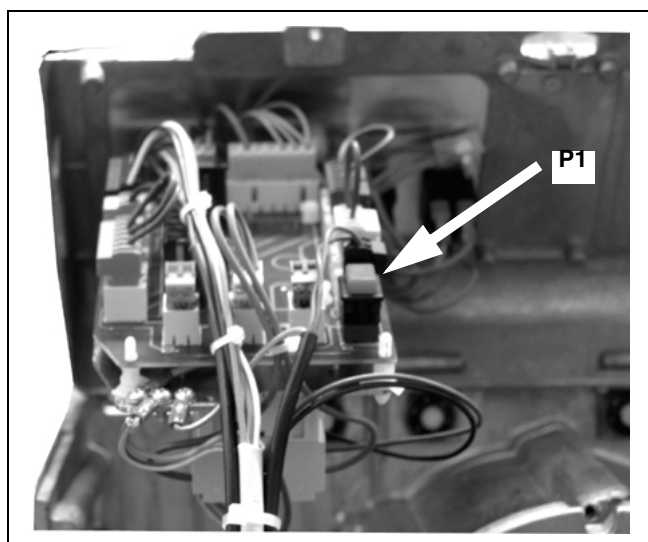

Fig. 40 - Second nozzle's ignition pushbutton on double stage burners
- ◆ When the flame appears press the **P1** button (Fig. 40) for a few seconds to fill the second nozzle pipe;